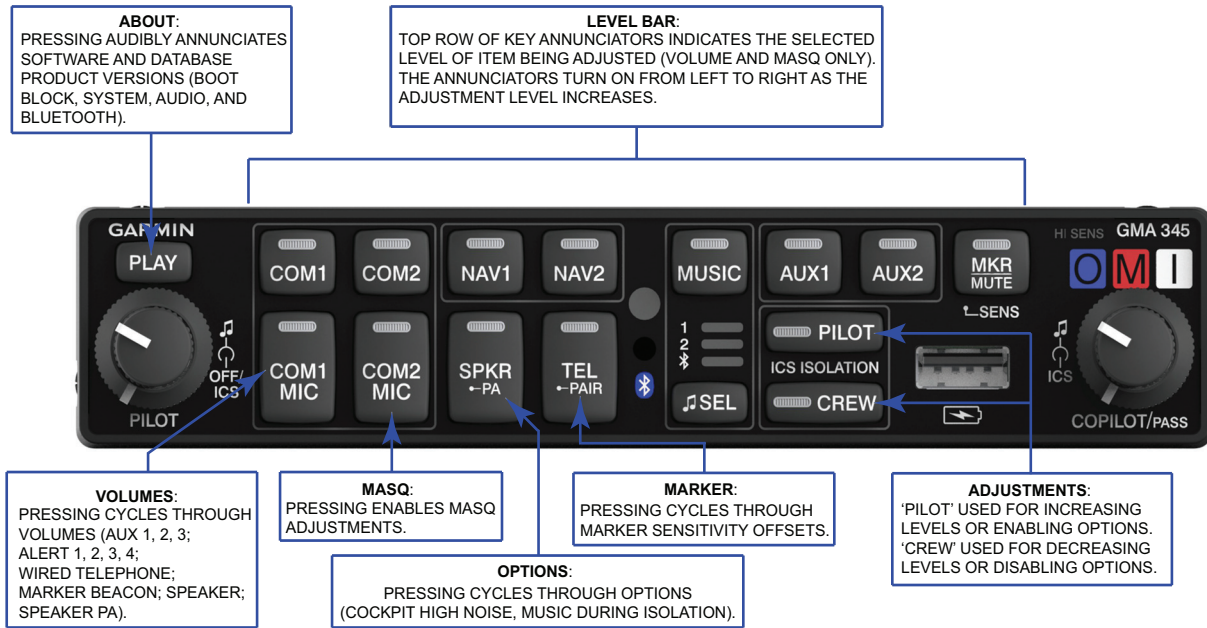

Figure 2-3 Front Panel Configuration
- The LEDs in the Level Bar (Figure 2-3) light to indicate an increase/decrease in the selected setting.